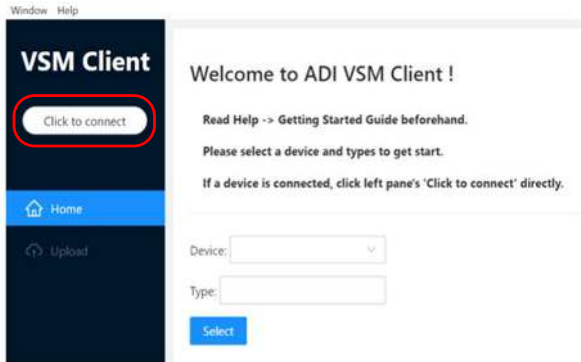

Figure 20. Start Interface of VSM Client
2. Click **Click to connect** in the start interface of VSM Client (see Figure 20).